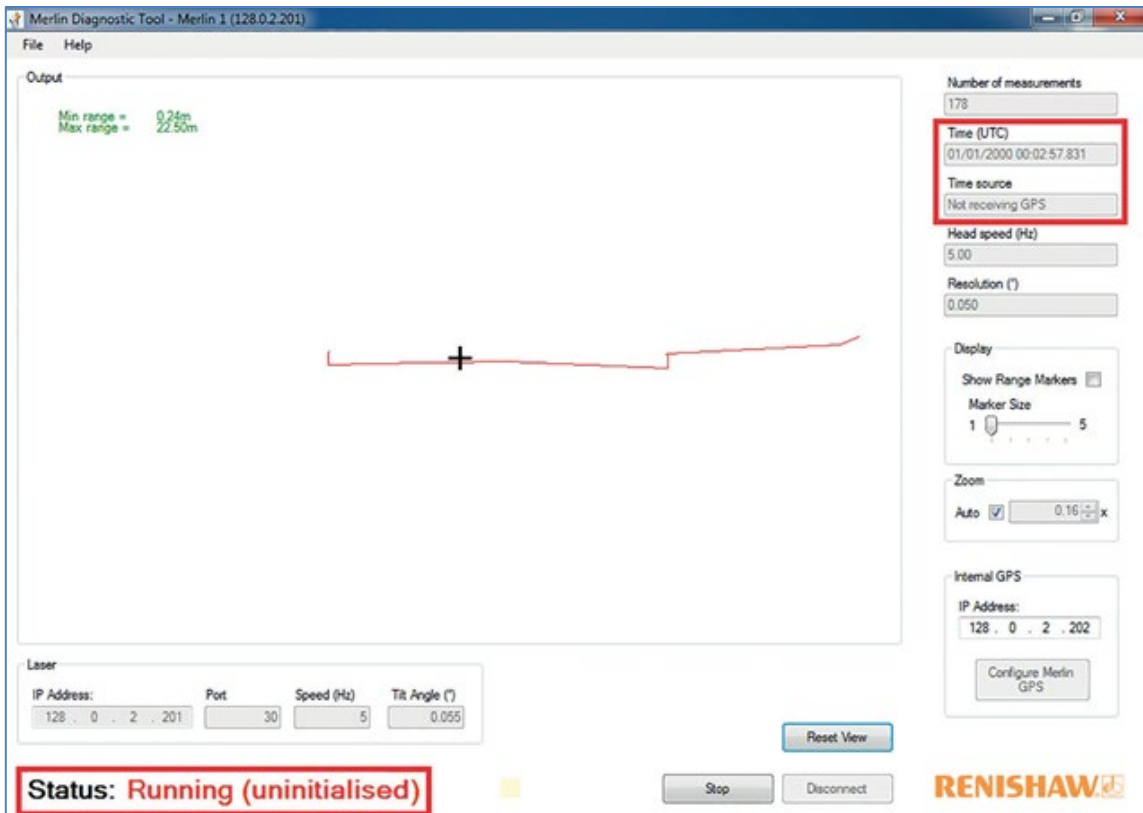

Figure 44 Status: Running (uninitialised) / Time (UTC) 01/01/2000
- If the Status has been displayed as **Running (uninitialised)** from initial power-up, the Time source is **Not Receiving GPS**, the Time (UTC) is 01/01/2000 00:00:00.000, this indicates no valid timing is being received. See Figure 44.